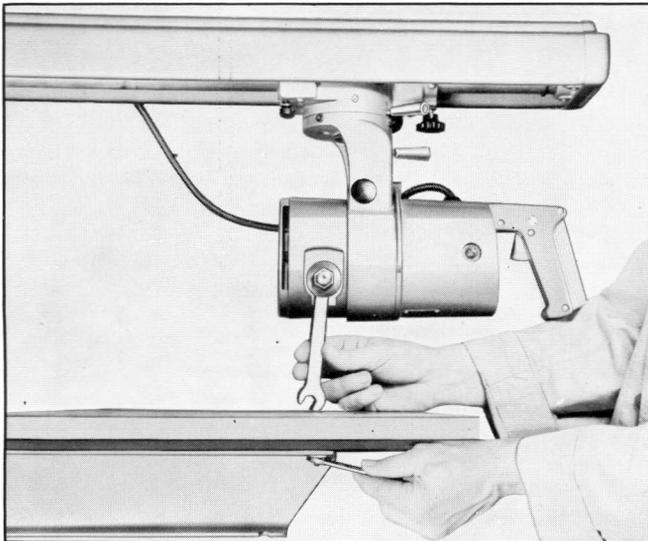

Fig. 12
1. Place wrench over shaft and hold securely with collar and arbor nut. See Fig. 12.
3. Using the wrench as a gage, the table must be adjusted up or down by means of four hex nuts located inside the table support channels. See fig. 12. Usually one or two turns of hex nut will put neoprene pads under sufficient compression.
5. Adjust hex nut below wrench, see fig. 12, until the end of the wrench just touches the table top when swung back and forth.